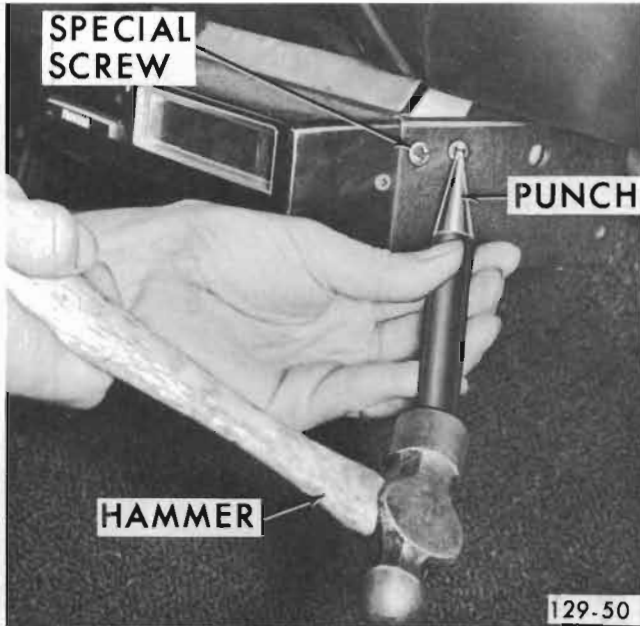

Figure 129-15 Anti-Theft Screw Loosening
1. The tape player is installed at the factory with special anti-theft screws. To remove, tap gently in a counterclockwise direction with a punch and hammer until screws are loose. See Figure 129-15.